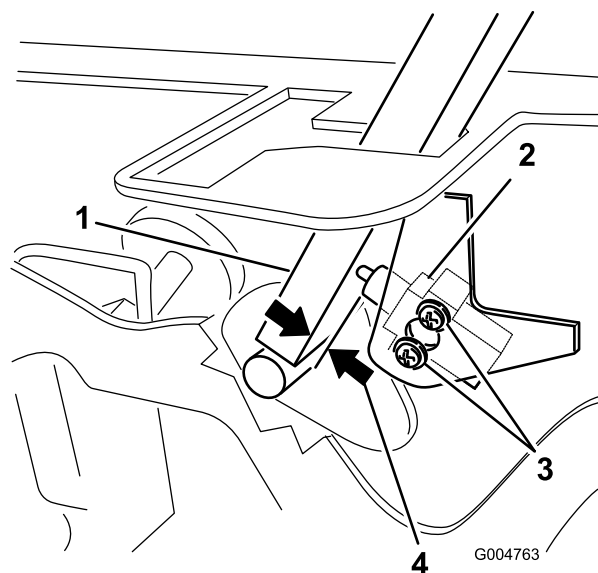

Figure 49
3. Loosen the 2 screws securing the interlock switch (Figure 49).
4. Holding the control lever against the frame, move the switch toward the lever until the distance between the lever and switch body is 0.4 to 1 mm (0.015 to 0.045 inch) as shown in Figure 49.